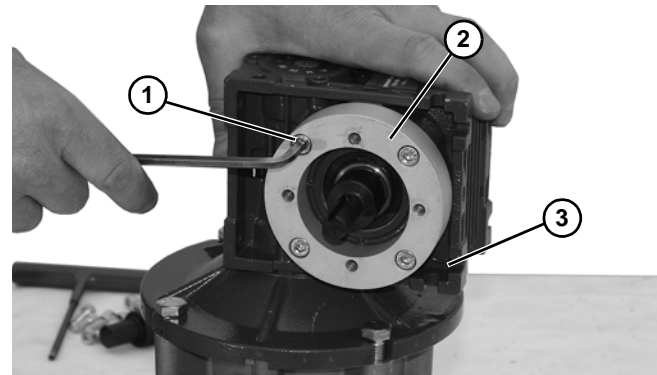

Figure 16
3. Loosen four (4) socket head screws (**Figure 16, item 1**) and detach spacer (**Figure 16, item 2**) from gear reducer (**Figure 16, item 3**).